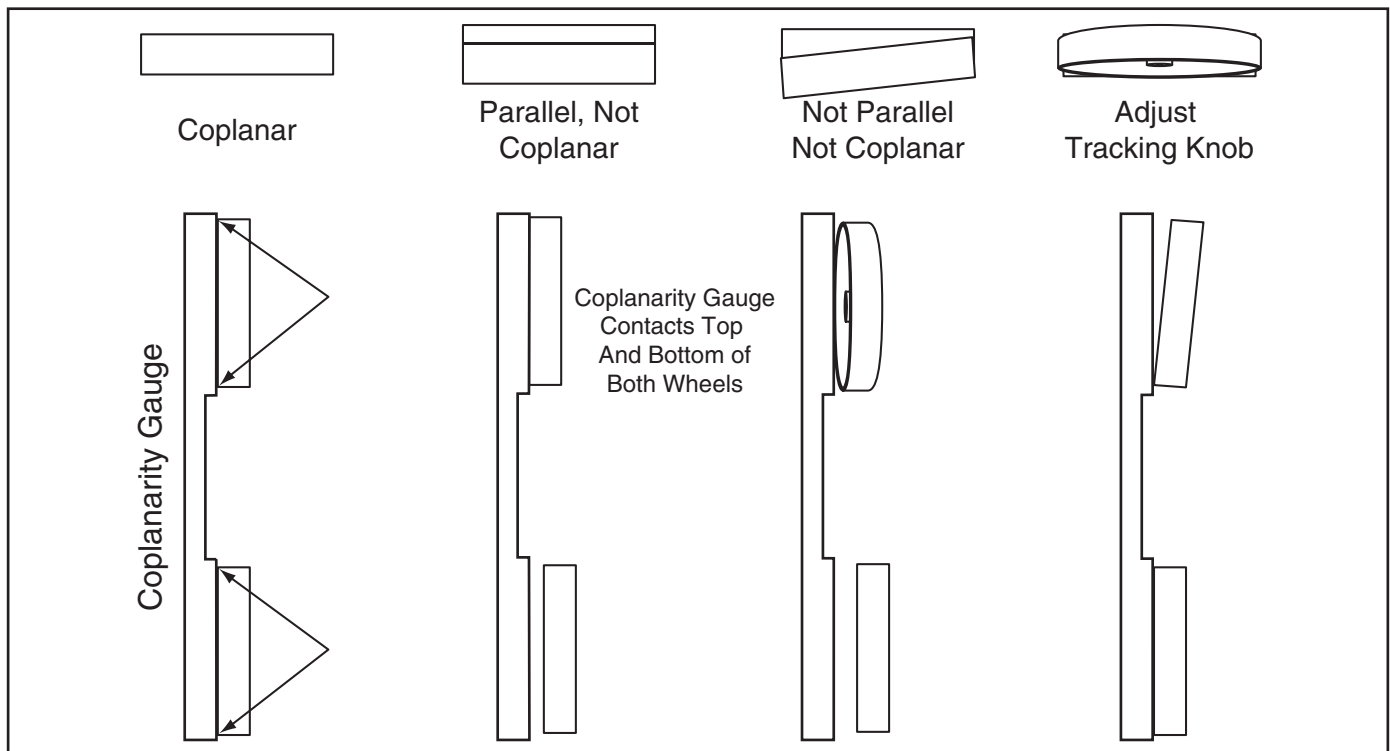

Figure 62. Coplanarity diagram.
7. **Figure 62** shows the positions of the wheels when coplanar. When your wheels are coplanar, readjust the guide bearings and support bearings, and close the wheel covers.